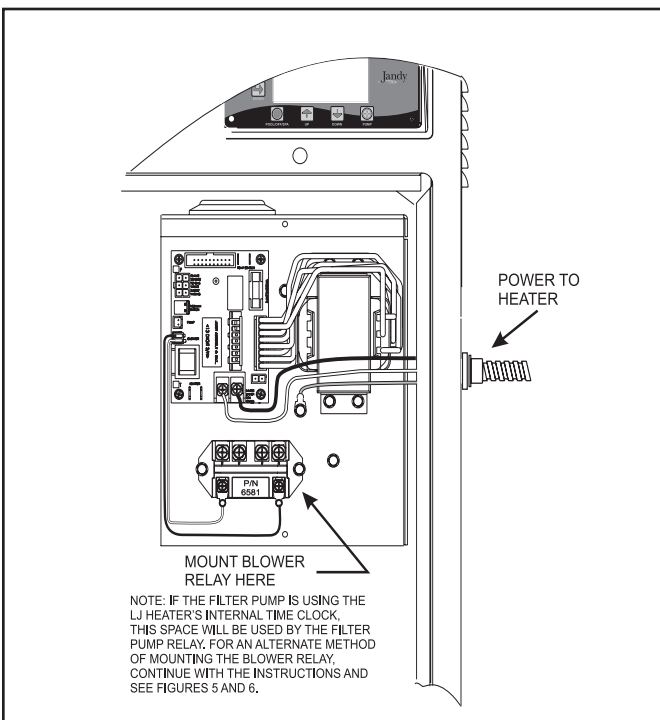

Figure 4. Mount the Blower Relay
4. Mount the blower relay to the back panel of the high voltage assembly (see Figure 4). If the filter pump is connected to the heater's internal time clock, the pump relay will already be mounted in this position. To mount the blower relay, do the following:
5. Plug the wires attached to the blower relay into the receptacle marked "BLOWER" on the power distribution board (see Figure 4 or 6).